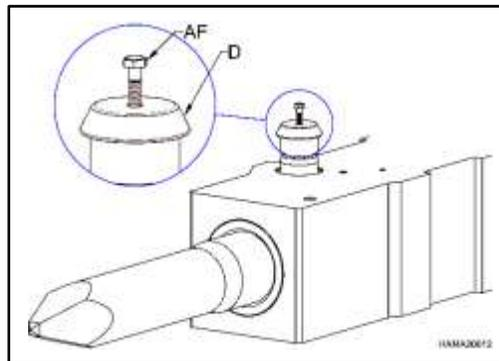

Fig. 3
2. Screw an M12 bolt or cap screw (AF) into the retainer pin (D), see **Fig. 3**.